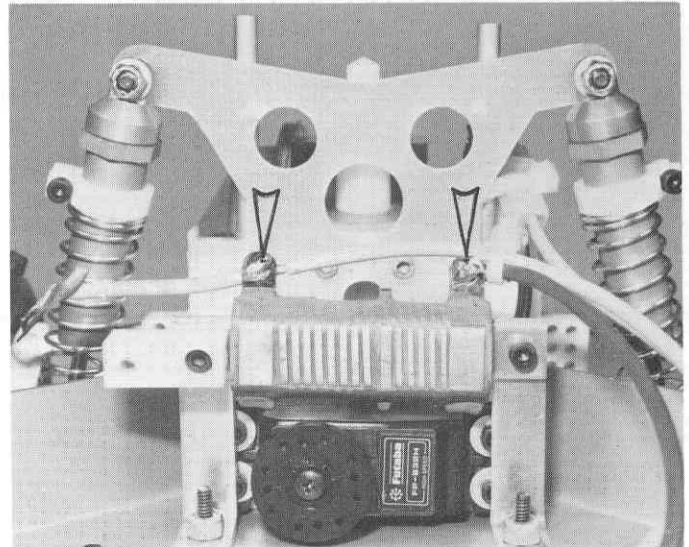

Fig. 154
□ **Fig. 154** In the end of these instructions is a full page detailed drawing of the wiring installation. We'll use that page to help clarify the installation. Attach the correct wires to the resistor per the drawing, and make sure the wire lengths are the same as in Photo 179. If you put the wires through the holes and bend them around they'll stay while soldering. Use only rosin core solder and solder both connections, as shown. All these wire connections **MUST BE** soldered.